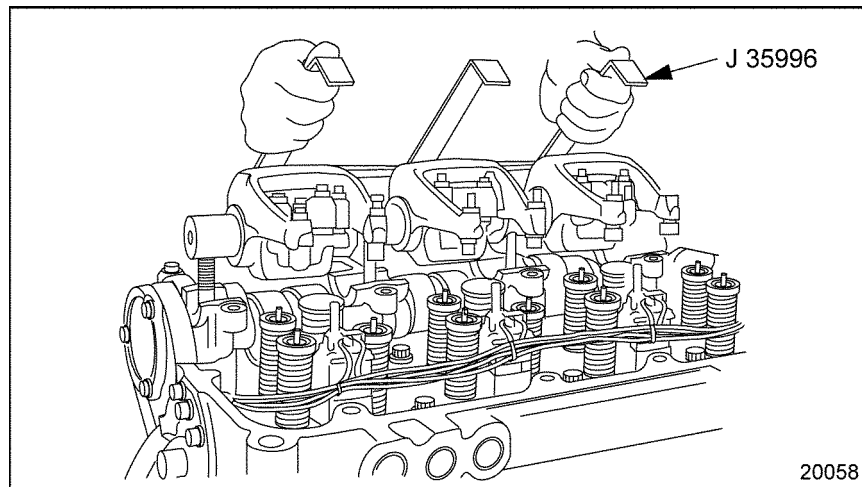

Figure 3-4 Rocker Arm/Shaft Assembly Removal/Installation
5. Remove the three rocker shaft mounting bolts and nut from the front rocker shaft assembly. Using removal tool (J-35996-A), see Figure 3-4, lift the assembly straight up and off of the head and place in a clean area on the bench.